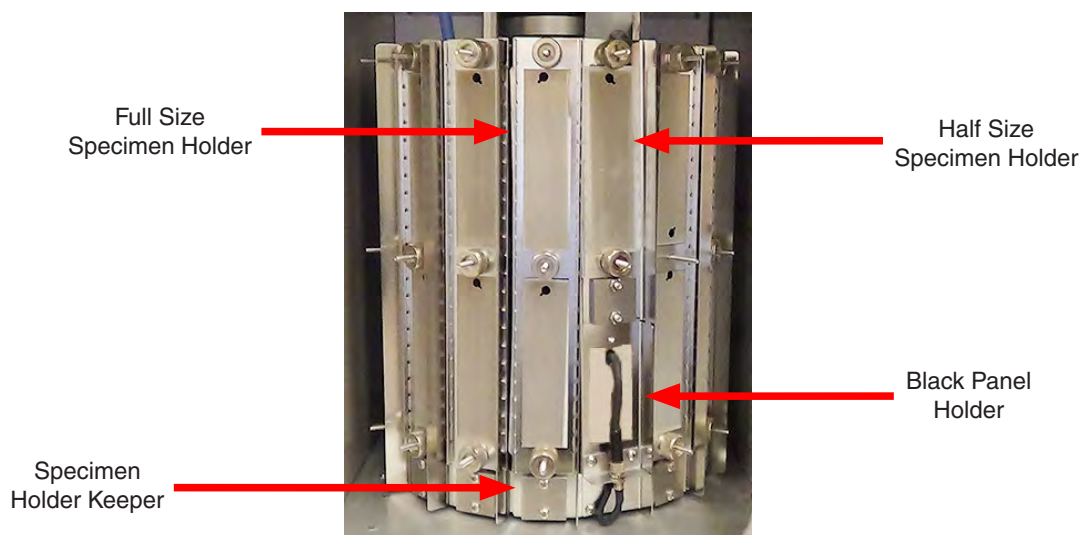

Figure 12.3a: Specimen holders mounted on the turntable.
- The Q-SUN Xe-2 has fifteen (15) full-size specimen holders (Figure 12.3a).